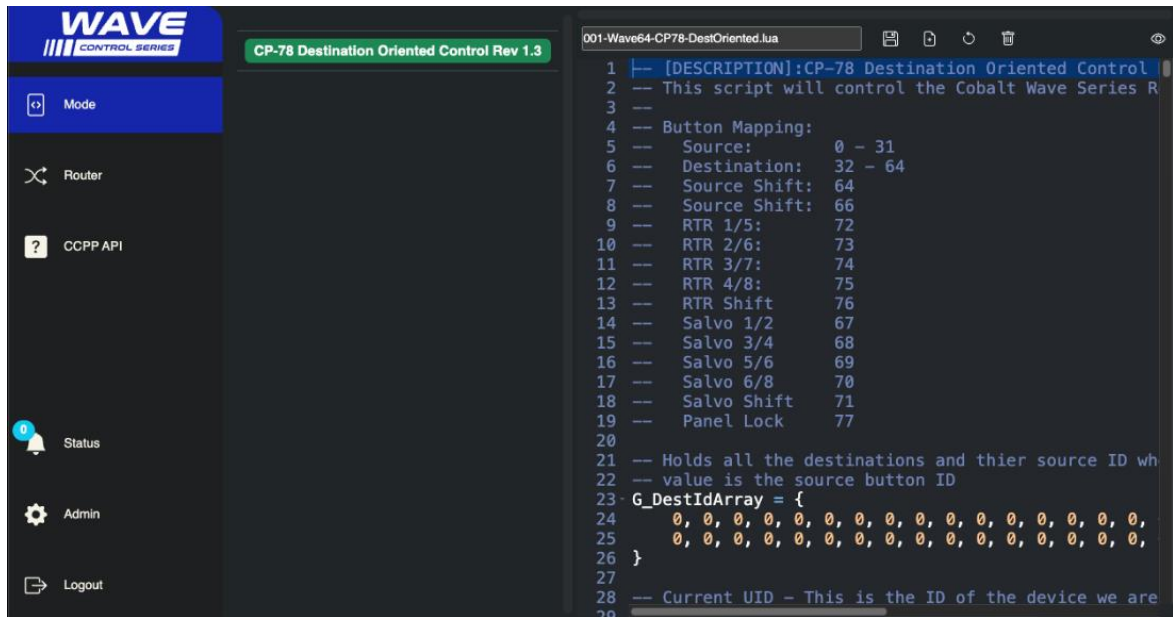

Figure 4
8. The control panel's mode may need configured, navigate to the "Mode" tab on the left of the UI, and select a mode to load the LUA configuration into the panel. After the mode is clicked, it will be highlighted green, and a LUA script should be loaded into the righthand side of the screen as shown below in **Figure 4**. Once the mode is selected, the Panel's LED Buttons will light up to confirm the panel is now active.